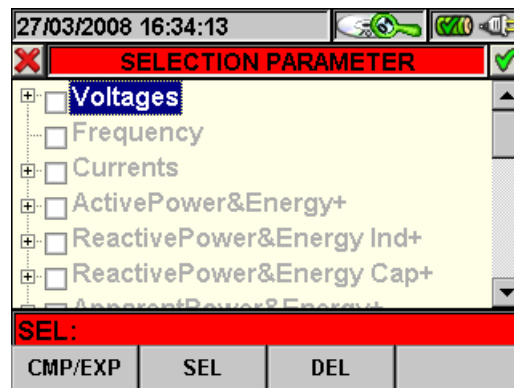

Fig. 119: Parameter selection
1. Press the **F1** key (or the **PARAM** item on the display) to access the page containing the recorded quantities available for the analysis (Fig. 119).
- **F1** key (or **PARAM** item on the display) to access the page of the selectable parameters (Fig. 119).